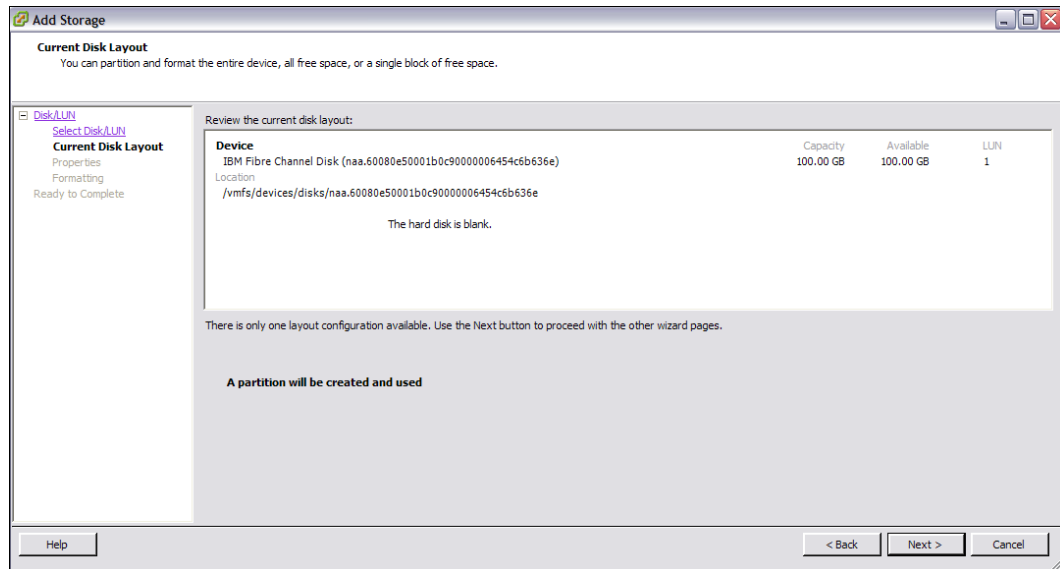

Figure 22-59 Disk layout
- Figure 22-59 on page 693 shows the disk layout of the LUN. Click **Next**.